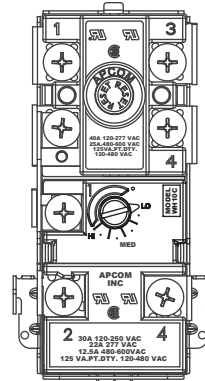
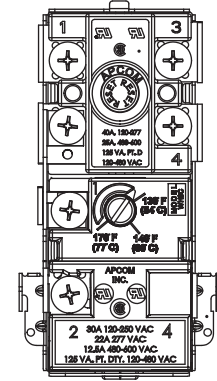
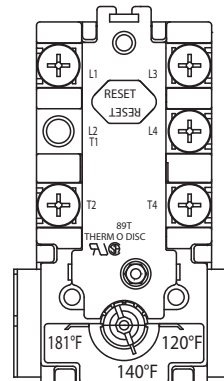
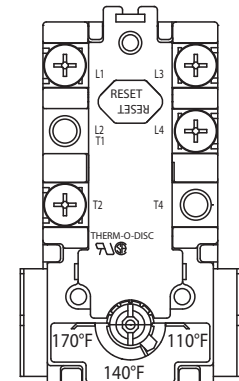

FIGURE 5
FIGURE 6
FIGURE 7
FIGURE 8
3. Depress the red manual reset button on each Thermostat/ECO combination control. (See Figure 5, Figure 6, Figure 7 or Figure 8)
A-8 Circuit thermostats have three designated set points; LO, MED and HI. (See Figure 5). The approximate equivalent temperatures for these three settings are: LO = 140°F (60°C), MED = 160°F (71°C) and HI = 181°F (83°C). These thermostats are set from the factory at the LO 140°F (60°C) setting. The over temperature device (ECO high limit) attached to each thermostat has a manual reset. The C-2 circuit thermostat is adjustable from approximately 130°F (54°C) to 170°F (77°C) (See Figure 6). These thermostats are set from the factory at
A-8 circuit thermostats are adjustable from approximately 120°F (49°C) (lowest setting) to 181°F (83°C) (highest setting) (See Figure 7). The C-2 circuit thermostat is adjustable from approximately 110°F (43°C) to 170°F (77°C) (See Figure 8). These thermostats are set from the factory at approximately the 140°F (60°C) setting. The over temperature device (ECO high limit) attached to each thermostat has a manual reset.